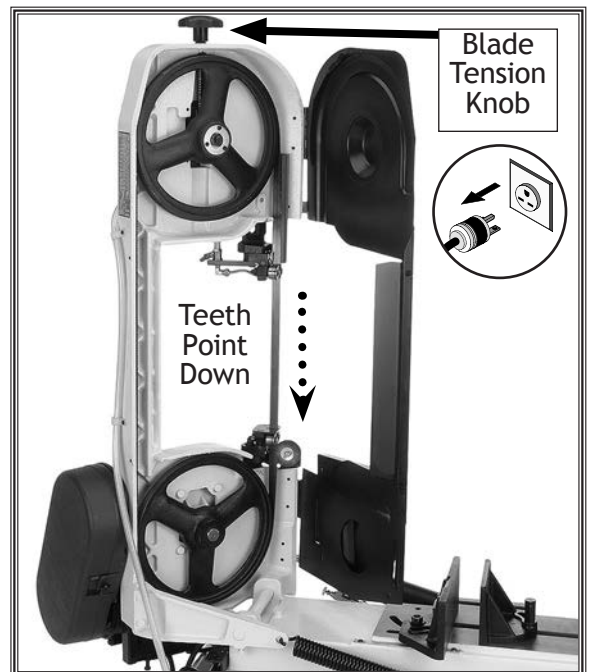

Figure 40. Open blade guard door.
5. Loosen the blade tension knob, note the direction of teeth, and remove the blade from the wheels and the blade guides (see Figure 40).